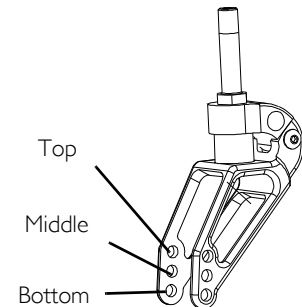

FIGURE 12 Front Seat-to-floor Height Adjustment
1. Refer to *FIGURE 12* and the charts on the following pages to determine available front seat-to-floor heights for each wheelchair frame size.